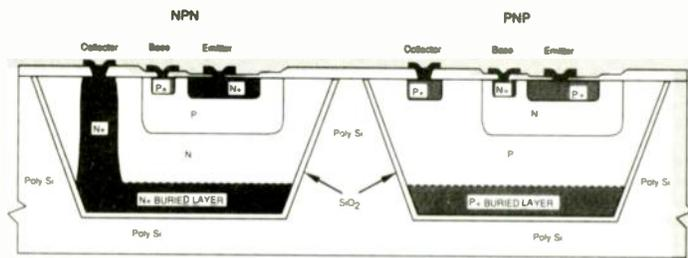

Fig. 1. Elantec's complementary diffusion isolation (DI) process gives the company's new op-amp an exceptional gain-bandwidth product.
Elantec, whose products are aimed at the transmission, reception, processing, measurement and display of high speed analogue and digital signals, was the first company to market the current-mode type of op-amp. The complementary BJT process relies on the ability to create vertical, rather than lateral p-n-p devices, to match the performance of vertical n-p-n transistors. Elantec achieves this using the technique of dielectric isolation (DI), illustrated in Fig. 1. Some advantages of this process are high speed n-p-n and p-n-p transistors having sustainable high voltages, low capacitance, a virtual absence of parasitic transistors, high electrical isolation and no latch-up, high temperature operation and good radiation resistance.